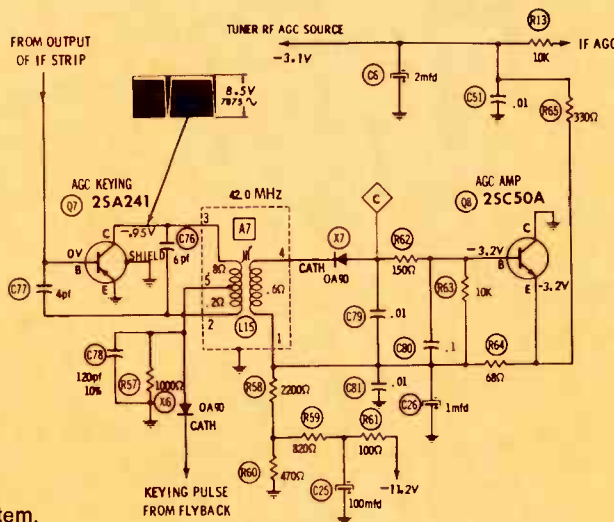
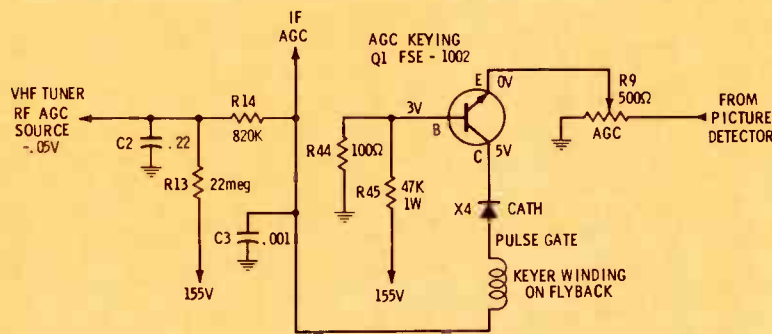
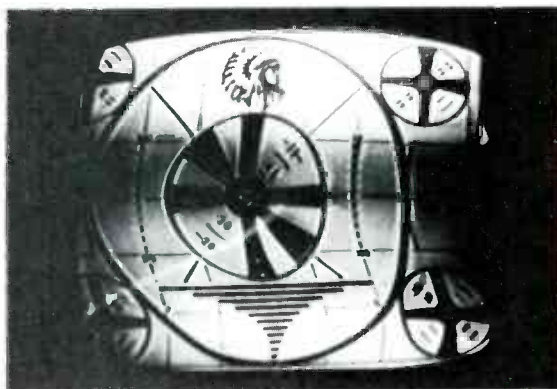

Fig. 9 Schematic diagram of a typical solid-state AGC system.
Fig. 10 Solid-state keyed-AGC stage used in a hybrid receiver.
Fig. 11 Example of overloaded picture accompanied by horizontal pulling.
A typical transistor AGC system is shown in Fig. 9. At first glance it appears that the circuit configuration is quite different from that employed in a tube-type receiver. First of all, transistor Q7 is not a DC amplifier—instead, it is an IF amplifier. However, it is not a conventional IF stage in that it branches off from the main IF section and amplifies the IF signal solely for AGC use. Furthermore, transistor Q7 is keyed by a pulse from the flyback system so that the transistor does not conduct continuously. The keying pulse is obtained from a small winding on the flyback transformer. Thus, the  $-0.95$  volt measured at the collector of Q7 is the average rectified DC voltage developed by semiconductor diode X6.
ranged to provide more negative bias voltage when the IF signal level increases. Observe Fig. 10. Transistor Q1 operates as a keyed-AGC stage. The emitter obtains video signal from the picture detector, the base is fixed-biased at 3 volts, and the collector is pulsed from a winding on the flyback transformer. Hence, the transistor conducts only during the flyback interval.
Note that Q1 in Fig. 10 is connected as a common-emitter amplifier. This configuration is practical because the AGC line to the IF and RF sections controls the grids of tubes that have a high impedance. The 5 volts at the collector of Q1 is obtained chiefly by pulse rectification through diode X4. Now, consider what happens when the picture detector applies video-signal voltage to the emitter of Q1. This is a negative-going voltage that increases the forward bias on the transistor.
The pulse output from Q1 in Fig. 10 is filtered by C3, R14, and C2. It is evident that any defect in the AGC system which prevents the control voltage from increasing as described, can result in the hybrid receiver displaying a negative picture.
Suppose that the AGC control in Fig. 10 is worn or open. The video waveform at the emitter of Q1 will be weak or absent. An ohmmeter check will confirm the suspicion of a defective AGC control. In case the transistor is defective, the normal DC voltages will not be present—if a junction is open, there will be no current flow and the electrode voltages will be quite different. On the other hand, if a junction is short-circuited, you will measure the same voltage at both junction terminals. Sometimes a junction merely develops a poor front-to-back ratio. In this case the DC voltages will be more or less abnormal, and the AGC output voltage will change only slightly when the signal level is increased.
This symptom can be caused by defects in the RF, IF, or video-amplifier section, as previously explained. A preliminary localization test is made by clamping the AGC line. Then, if normal picture and sound reproduction are obtained, the trouble will be found in the AGC system. A defect is present that cuts off the IF transistors. In the configuration shown in Fig. 9, for example, a very slight negative voltage, or zero volts, would be measured on the AGC line.
With reference to Fig. 9, possible causes of no sound and no picture, due to AGC trouble are:
An overloaded picture, if caused by AGC trouble, becomes normal when the AGC line is clamped. If a measurement of the bias voltage output from the AGC section shows lack of adequate control voltage with a normal signal level present, the suspicion of AGC trouble is confirmed. With reference to Fig. 9, diode X6 is a ready suspect. If the diode is open-circuited, the keying pulse is stopped, and the AGC system cannot function. Transistor Q7 is cut off, and X7 can feed no rectified voltage to Q8. In turn, the AGC control voltage remains at  $-3.2$  volts regardless of the signal level. When X6 is open, and with normal IF signal level present, a direct clue is positive DC voltage at the collector of Q7, instead of the normal  $-0.95$  volt. In this situation, Q8 operates as a diode rectifier for the IF signal, and develops a positive collector voltage.
- a. Pulse diode open (X6 in Fig. 9).
- b. Rectifier filter capacitor shorted (C79 or C80 in Fig. 9).
- f. Open resistor, such as R57 in Fig. 9 (rare cases only).
An overloaded picture with intercarrier buzz is often accompanied by horizontal pulling, as illustrated in Fig. 11. Overload results in compression or clipping of the sync pulses, which prevents the horizontal-AGC system from locking the picture tightly. Suppose that X6 in Fig. 9 is shorted. In this case, the keying pulse will still be applied to the collector of transistor Q7, but the only rectifying action in the circuit will be that of collector-junction action. Consequently, the DC voltage at the collector will be subnormal, and will measure about  $-0.2$  volt. The DC voltage at the base of
With reference to Fig. 9, possible causes of a weak picture due to AGC trouble are:
(Fig. 9) is leaky, the DC voltages at the base and emitter will be subnormal due to excessive loading imposed by leakage to ground via the collector. In a typical trouble situation the base and emitter voltages are only half their normal value. Another useful clue in this situation is intercarrier buzz accompanying the weak picture.
A weak picture can result when C77 in Fig. 9 is open, because transistor Q7 is no longer neutralized. The stage becomes regenerative, and L15 resonates at a frequency higher than 42 MHz. In turn, reduced signal voltage is fed to X7. If the defect in C77 is overlooked, an attempt to obtain normal operation may be sought by realigning L15. However, this does not produce the desired result. As the slug is turned into the transformer, L15 resonates at 42 MHz, but the stage then becomes an oscillator instead of an amplifier. Oscillation results in excessive 42-MHz voltage being fed to X7, and the picture symptom is suddenly reversed. Instead of a weak picture, an overloaded picture is displayed on the picture-tube screen.
Off-valve resistors are less commonly encountered, but this possibility must not be overlooked. Suppose that R61 in Fig. 9 has increased in value. In this case, the picture will have low contrast, and a hissing noise will be audible in the sound. Measurement of the DC voltages at Q8 provides the preliminary clue; both the base and emitter voltages will be subnormal and in a typical trouble situation will measure only —1 volt. Again, consider a trouble situation caused by an increase in value of R65 in Fig. 9. The DC voltage measurements show an excessive voltage drop across R65. Although the emitter end of the resistor has a higher voltage than normal, the AGC-line end of R65 has lower voltage than normal. An ohmmeter check confirms that R65 has increased in value.
Next, consider a weak-picture symptom when a transistor AGC section is used in a hybrid receiver. With reference to Fig. 10, a weak picture is caused by excessive output control voltage from the AGC circuit. The most likely culprit is AGC control R9. When the control becomes worn, it can develop excessively high resistance near the grounded end. The control will then lack adequate range, and excessive video signal will be fed to the emitter of the transistor, regardless of the control setting. An ohmmeter check will confirm the suspicion of a defective AGC control.
- Pulse filter diode open (X6 in Fig. 9 and X4 in Fig. 10).
- Leaky neutralizing capacitor (C77 in Fig. 9).
Brightness modulation can also occur due to AGC trouble without a picture-pulling symptom. For example, if R65 in Fig. 9 increases in value, the contrast will be low and brightness modulation will become apparent, as illustrated in Fig. 12. The bottom portion of the picture is excessively bright, while the top portion is comparatively dark. To confirm that brightness modulation is actually being caused by AGC trouble, clamp the AGC line. If the brightness-modulation symptom disappears, we know that the trouble will be found in the AGC section.
Brightness modulation can occur in any portion of the picture. For example, Fig. 13 illustrates brightness modulation chiefly through the center of a weak picture that is pulling, as a whole, to the right-hand side of the screen. If the AGC line is clamped, the symptoms disappear. Accordingly, the trouble is caused by a defect in the AGC section. With reference to Fig. 9, the most likely cause is transistor Q8. Leakage from collector to base can cause this picture symptom, which is accompanied by buzz in the sound. The DC voltages at base and emitter measure lower than normal.
However, practically the same symptom can be caused by an increase in value of R61 in Fig. 9. Again, the DC voltages at base and emitter of Q8 measure much lower than normal. Brightness modulation occurs in Fig. 13 because the picture is being pulled. In turn, the sync pulses of the video signal are not exactly in step with the keying pulses from the flyback transformer. The AGC keying stage does not supply a completely steady output voltage as the picture is scanned from top to bottom. This variation in AGC output produces the brightness modulation. ▲